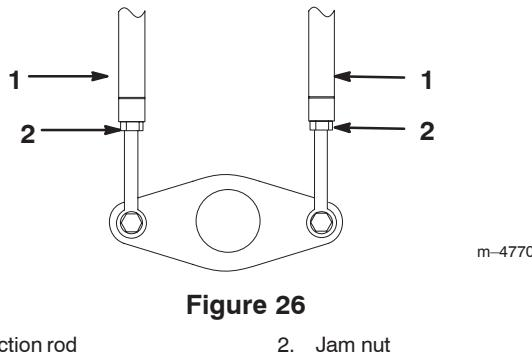

Figure 26
3. Loosen the jam nuts on the traction rods, under the control panel (Fig. 26).